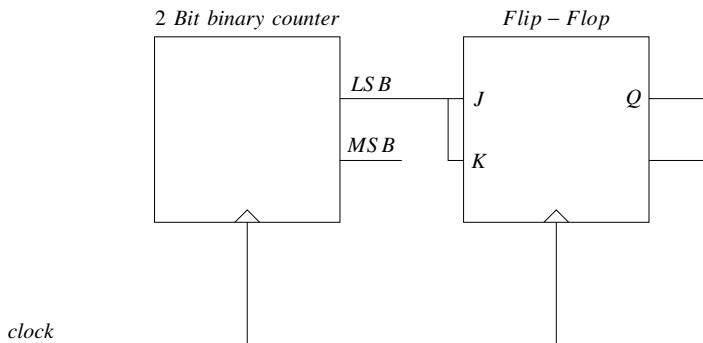

Fig. 5.28
29. For the circuit shown in Fig. 5.28, the clock frequency is f_0 and the duty cycle is 25%. For the signal at the Q output of the Flip-Flop,